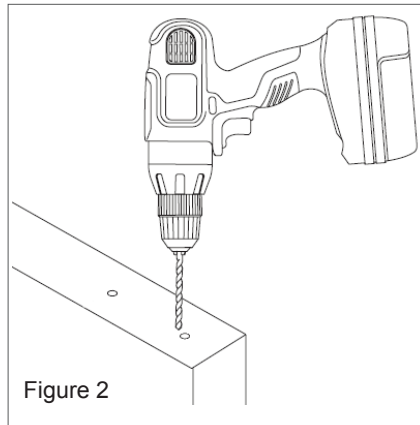

Figure 2
4. Drill two pilot holes for each hanger using an 1/8" bit (Figure 2).
5. Mark an intersecting line inside each slotted hole wherever they work best for your wall considering stud locations (Figure 2).